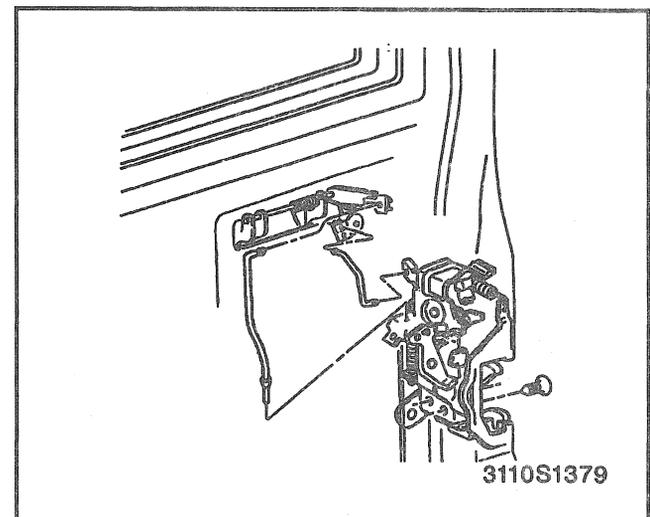

Figure 28—Outside Door Handle and Lock Control Rods and Lock Assembly
5. Outside door handle and lock control rods (Figure 28).
2. Outside door handle and lock control rods (Figure 28).
Remove or Disconnect (Figures 28 and 29)
4. Outside handle rod from the rod clip (Figures 28 and 29).
5. Lock cylinder rod from the rod clip (Figures 28 and 29).
Install or Connect (Figures 28 and 29)
3. Lock cylinder rod to the lock cylinder clip (Figures 28 and 29).
4. Handle rod to the handle assembly clip (Figures 28 and 29).